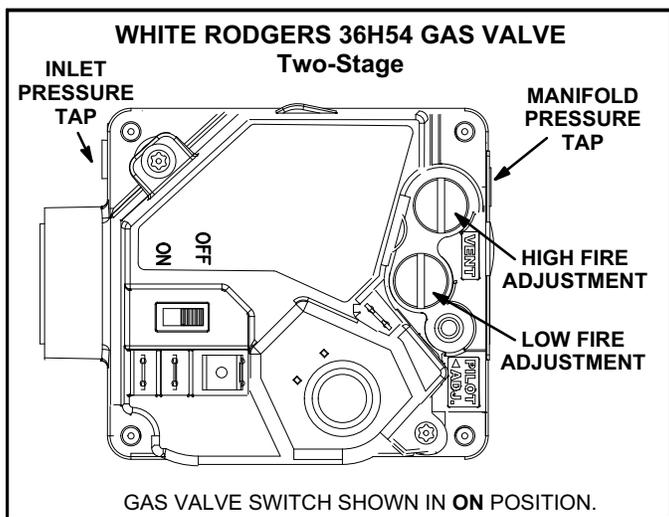
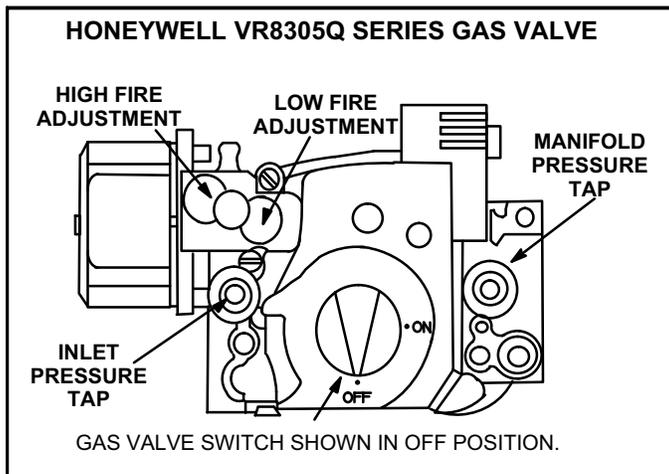

FIGURE 16
FIGURE 17
Gas Valve Operation for Honeywell VR8305Q or White Rodgers 36H54 (figure 16 or 17)
- 5- Turn gas valve switch to **OFF**. See figure 16. On Honeywell VR8305Q gas valves, turn the knob on the gas valve clockwise  to "**OFF**". Do not force. See figure 17.
- 6- Wait five (5) minutes to clear out any gas. If you then smell gas, **STOP!** Immediately call your gas supplier from a neighbor's phone. Follow the gas supplier's instructions. If you do not smell gas, go to the next step.
- 7- Turn gas valve switch to **ON**. See figure 16. On Honeywell VR8305Q gas valves, turn the knob on the gas valve counterclockwise  to "**ON**". Do not force. See figure 17.